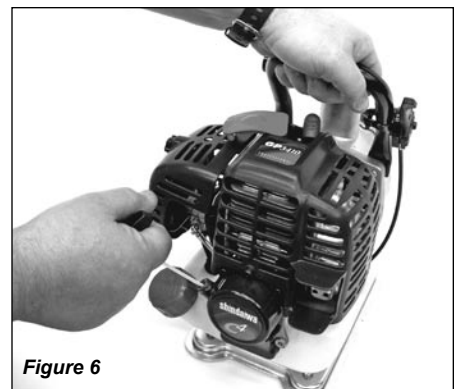

Figure 6
5. While holding the pump handle firmly with your left hand, use your other hand to slowly pull the recoil starter handle until resistance is felt, then pull quickly to start the engine. See Figure 6